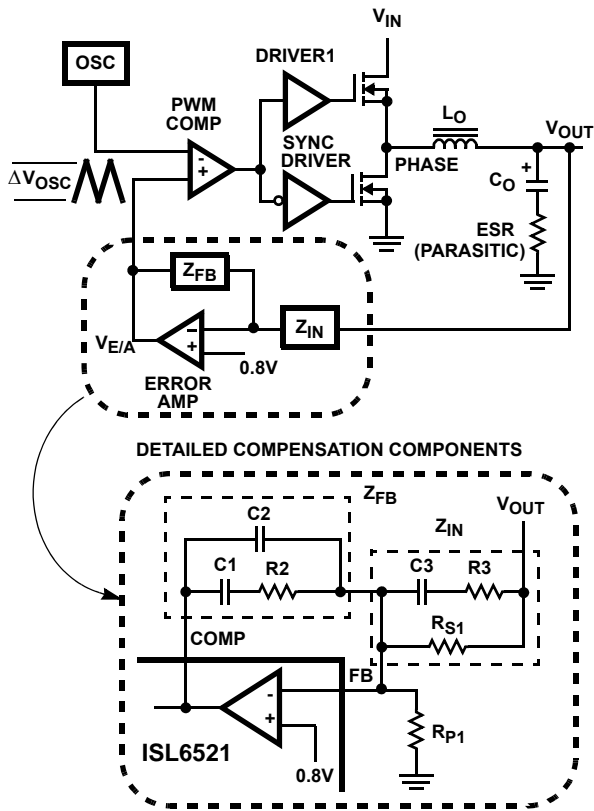
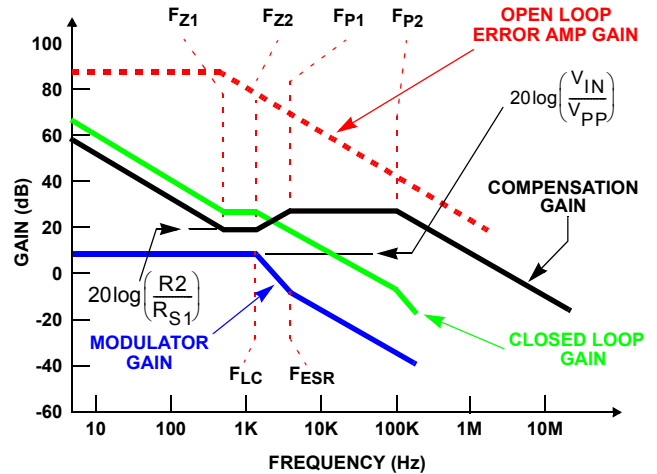

FIGURE 5. VOLTAGE-MODE BUCK CONVERTER COMPENSATION DESIGN
FIGURE 6. ASYMPTOTIC BODE PLOT OF CONVERTER GAIN
Figure 5 highlights the voltage-mode control loop for a synchronous-rectified buck converter. The output voltage ( $V_{OUT}$ ) is regulated to the reference voltage level, 0.8V. The error amplifier (Error Amp) output ( $V_{E/A}$ ) is compared with the oscillator (OSC) triangular wave to provide a pulse-width modulated (PWM) wave with an amplitude of  $V_{IN}$  at the PHASE node. The PWM wave is smoothed by the output filter ( $L_O$  and  $C_O$ ).
and  $Z_{FB}$ . The goal of the compensation network is to provide a closed loop transfer function with high 0dB crossing frequency ( $f_{0dB}$ ) and adequate phase margin. Phase margin is the difference between the closed loop phase at  $f_{0dB}$  and 180 degrees. The equations below relate the compensation network's poles, zeros and gain to the components ( $R1$ ,  $R2$ ,  $R3$ ,  $C1$ ,  $C2$ , and  $C3$ ) in Figure 5. Use these guidelines for locating the poles and zeros of the compensation network:
Figure 6 shows an asymptotic plot of the DC-DC converter's gain vs. frequency. The actual Modulator Gain has a high gain peak dependent on the quality factor (Q) of the output filter, which is not shown in Figure 5. Using the above guidelines should yield a Compensation Gain similar to the curve plotted. The open loop error amplifier gain bounds the compensation gain. Check the compensation gain at  $F_{P2}$  with the capabilities of the error amplifier. The Closed Loop Gain is constructed on the log-log graph of Figure 6 by adding the Modulator Gain (in dB) to the Compensation Gain (in dB). This is equivalent to multiplying the modulator transfer function to the compensation transfer function and plotting the gain.